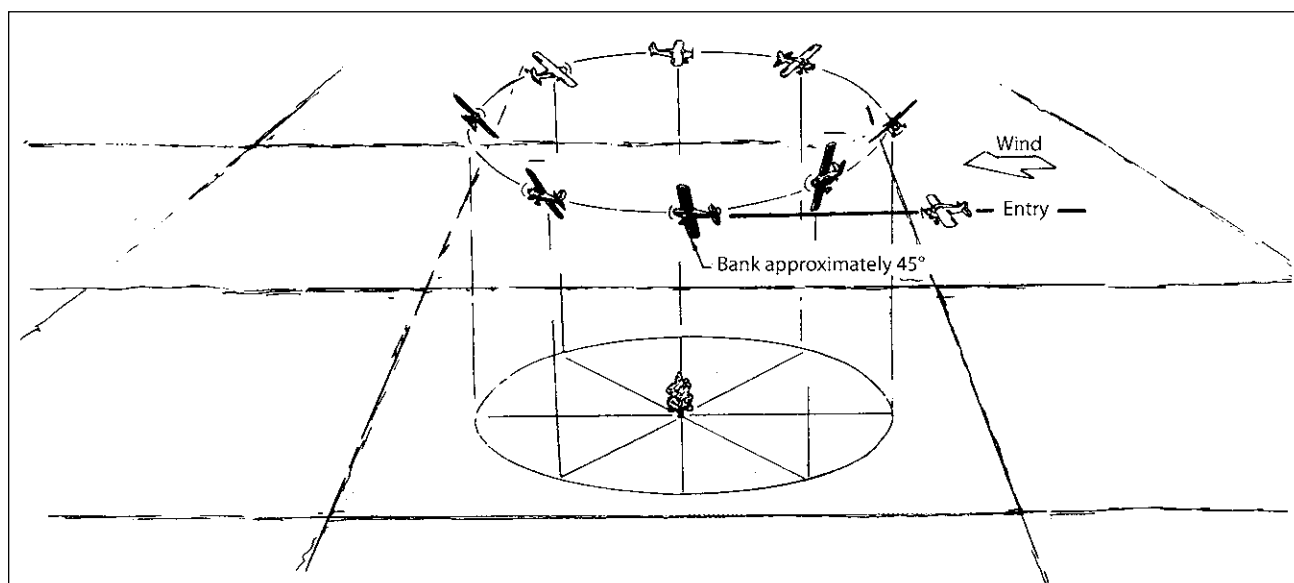

Figure 16-1. Turns around a point. The steepest bank is required when the plane is flying directly downwind.
This maneuver is very close to the S-turn across a road because you're correcting for wind while in a turn. It is suggested that the steepest bank should be approximately 45° and the altitude should not be lower than 500 feet above the highest obstruction in the maneuver pattern. The idea of the turns about a point is to show the check pilot how well you can fly the plane when your attention is directed outside. Your check pilot will also want to find out if you understand wind drift correction principles (Figure 16-1).
5. Coordination problems. Students sometimes have trouble with this maneuver because they can't seem to convince themselves that the steepest bank is required when the airplane is headed *directly* downwind, as indicated in Figure 16-1.